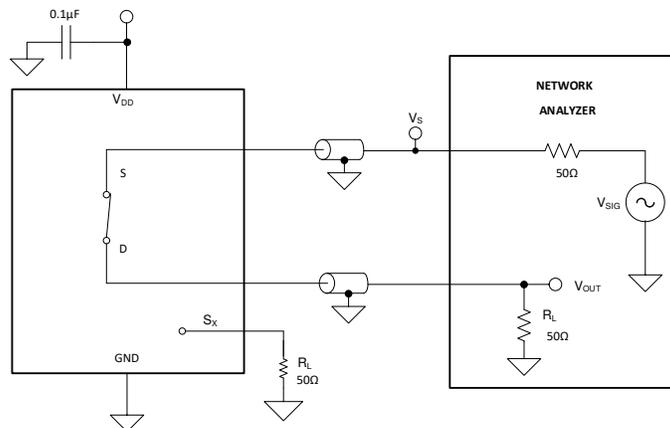

Figure 7-10. Bandwidth Measurement Setup
Bandwidth is defined as the range of frequencies that are attenuated by less than 3dB when the input is applied to the source pin (Sx) of an on-channel, and the output is measured at the drain pin (D) of the device. Figure 7-10 shows the setup used to measure bandwidth.